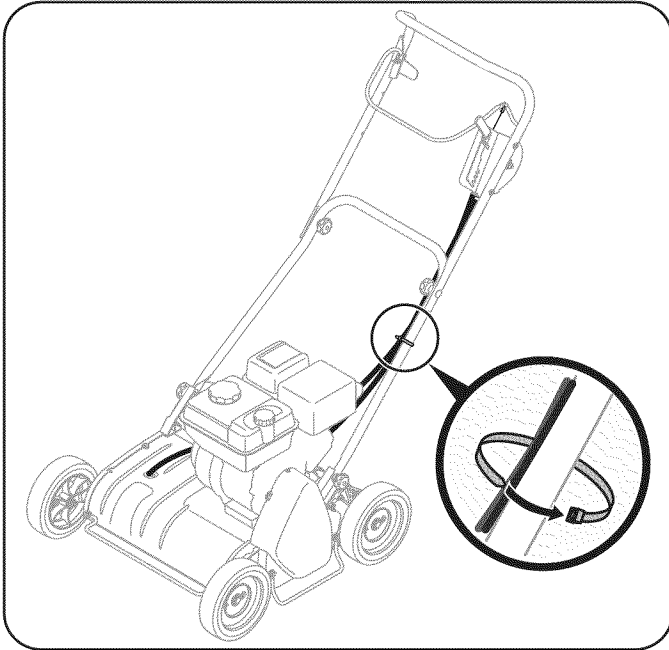

Figure 4
Cables are attached to their respective controls, but are left unattached to the handle to ease assembly; however, they will need to be secured to the lower handle by the provided cable tie. See Figure 4.
2. Slowly add oil until the oil level registers between high (H) and low (L) on the dipstick, Figure 4. Refer to the Service and Maintenance section for the correct oil viscosity and engine oil capacity.